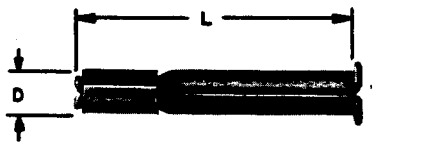

Fig. 1 - B Drive Anchor
1.03 B drive anchors (Fig. 1) are used for permanent installations.